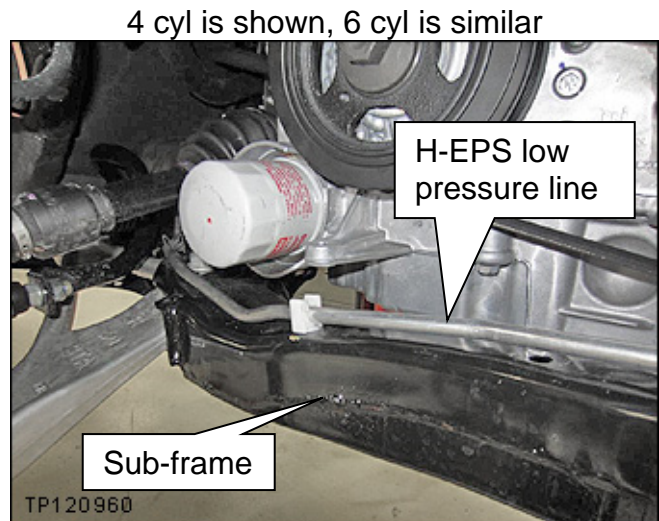

Figure 9
- Check the location circled in Figure 9.